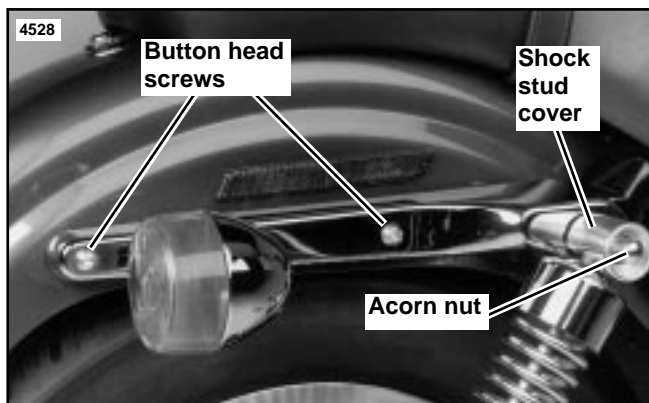

Figure 2. Rear Fender Support
4. See Figure 2. Remove button head screws and locknuts that secure fender support cover to frame. (If you have a Hugger model with a sissy bar, one of these screws and locknuts may already be removed.) Retain hardware for later reinstallation.
9. See Service Parts illustration. Using a small piece of tape, tape large spacer (item 14) from kit onto frame over hole from which rear turn signal stud was removed.